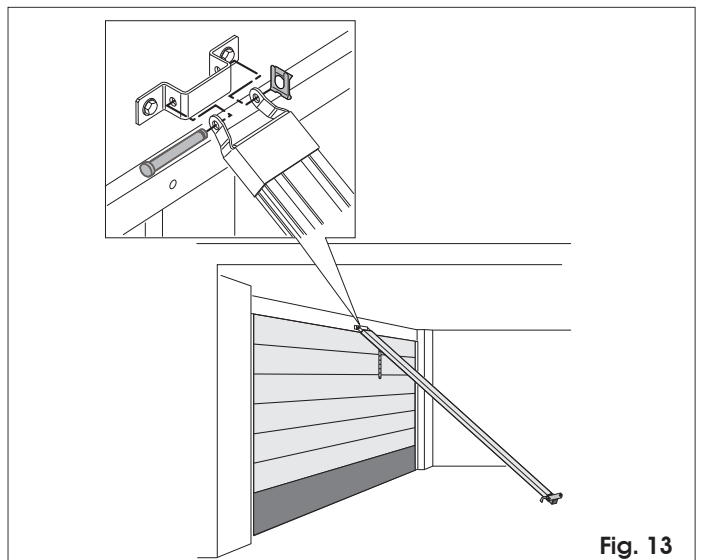

Fig. 13
- 7) Lift guide off the front fitting and assemble the latter with the securing bracket, using the through screw and nut (Fig. 13).